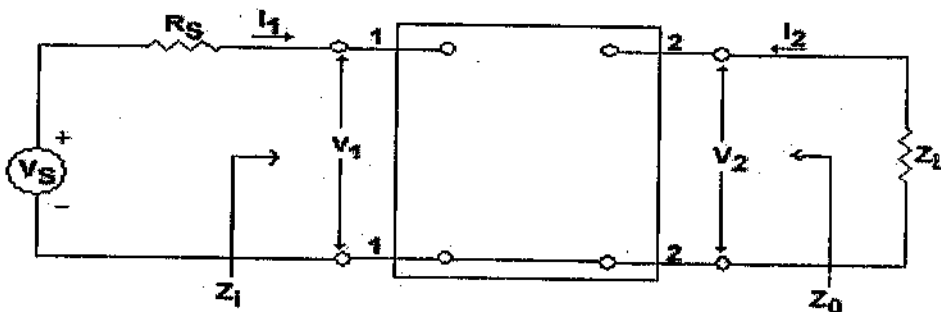

Fig. 9.1 Transistor Amplifier as four terminal Network
A voltage-controlled current source along with a load resistor can form an amplifier. In general, an amplifier produces an output (voltage or current) that is a magnified version of the input (voltage or current). The basic amplifier circuit as an active four terminal network is shown in fig. 9.1. Block (A) shown in figure could be a CB, CE or CC configuration of the transistor.